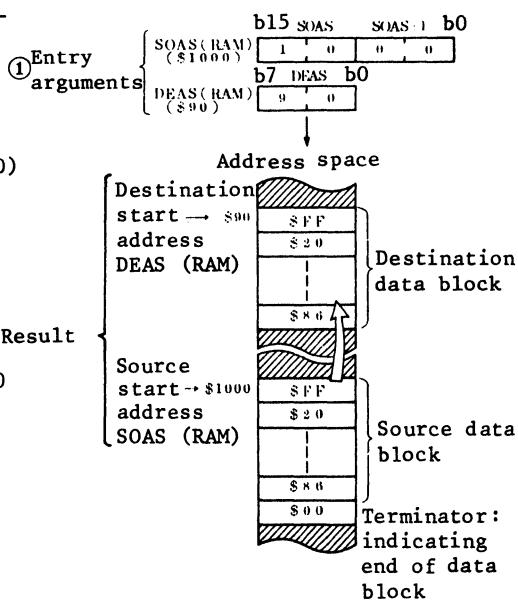
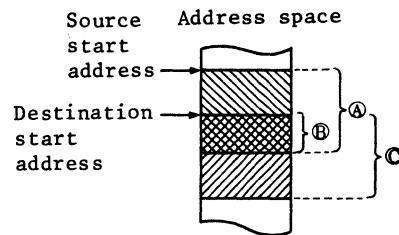

Fig. 1 Example of MOVES execution
Fig. 2 Example of overlapping source area with destination area
(b) Fig. 1 shows example of MOVES execution.
If entry arguments are as shown in part ① of Fig. 1, data in source (\$1000) is moved to destination (\$90) as shown in part ② of Fig. 1. When it loads terminator \$00, MCU terminates moving process.
(2) User Notes
② Result
- (c) Hold entry arguments so that source area (Fig. 2 ④) and destination area (Fig. 2 ③) do not overlap. If they do, the source data in overlapping area (Fig. 2 ⑤) will be destroyed.